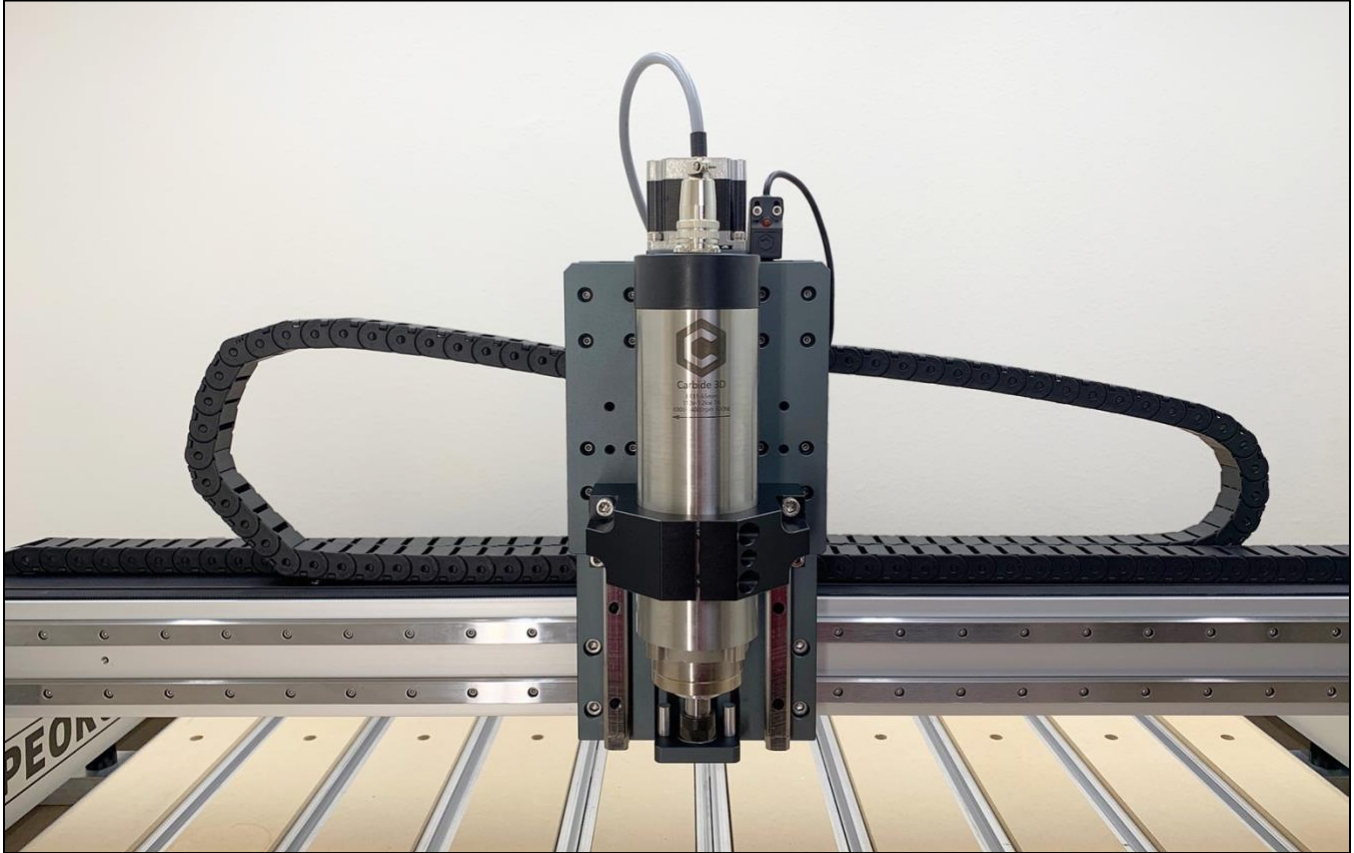

Figure 10
2. Plug the spindle power cable's screw-on connector into the top of the spindle and tighten the threaded ring. See **Fig. 10**.